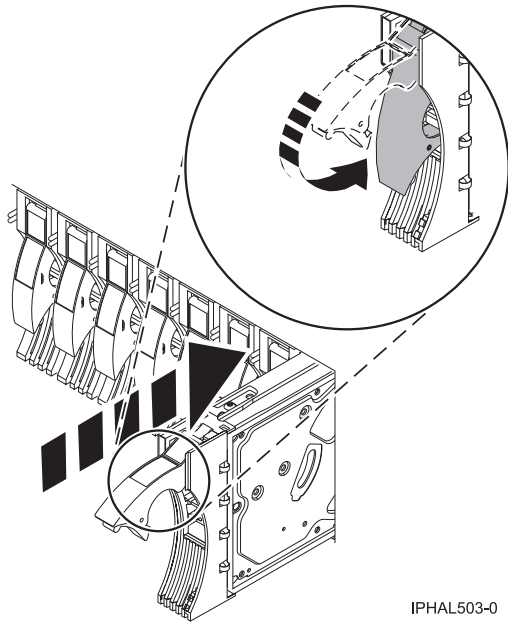

Figure 77. Installing a disk drive in a model or 7311-D20
10. Slide the disk drive all the way into the system or expansion unit and then lock it in place by pushing in the disk drive handle, as shown in Figure 77 on page 89.